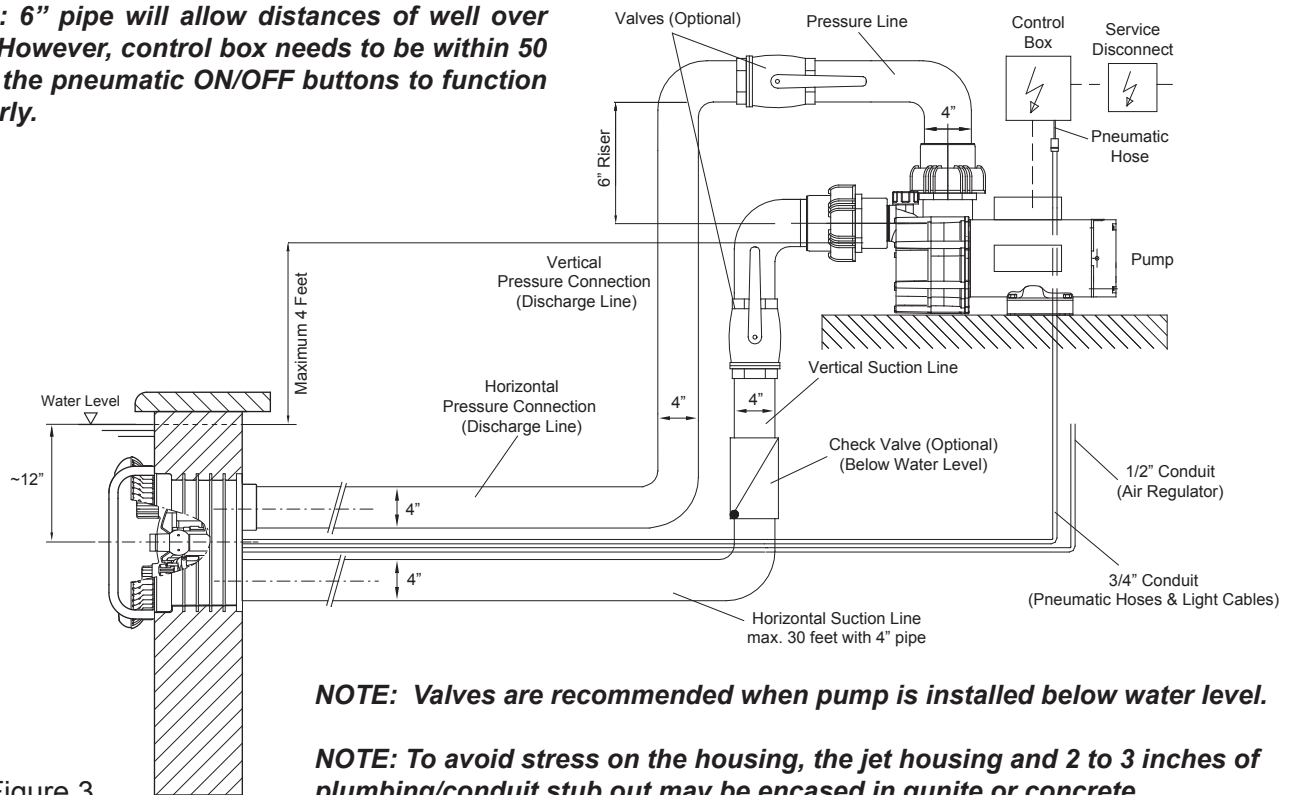

Figure 3
**CAUTION:** *When connecting the pressure line into the pressure connection on top of the 4 HP pump Model 21-80, first install a 6" (15 cm) riser (See Figure 3) before installing an elbow and leading the pressure line downward to the pressure connection at the jet housing. This will guarantee trouble-free priming of the pump. (Not required for the 3.5 HP Model 72)*
**CAUTION:** *When using 6" pipe the suction line should run to a point directly under the pump and up to the water line in 6" and finish vertical and elbow into the pump in 4" to minimize priming time. (See Figure 3)*